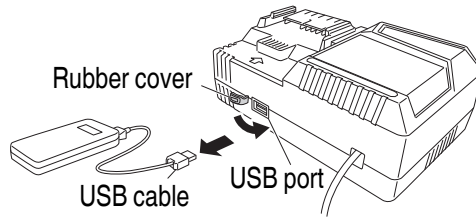

Fig. 38
- (3) When charging is completed
- Unplug the power cord from the electrical outlet. (Fig. 38)